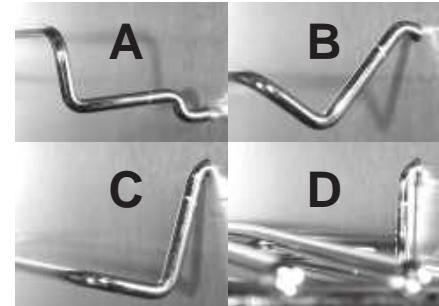

FIG. 1
- **Install the adjustable shelf by placing the ends of the wire shelf bracket into the corresponding holes located on the inner sides of the oven at the desired height. Push the ends of the bracket into the holes until the first bends in the bracket are against the wall, then rotate the bracket down. Place the shelf on the brackets. (FIG 1)**